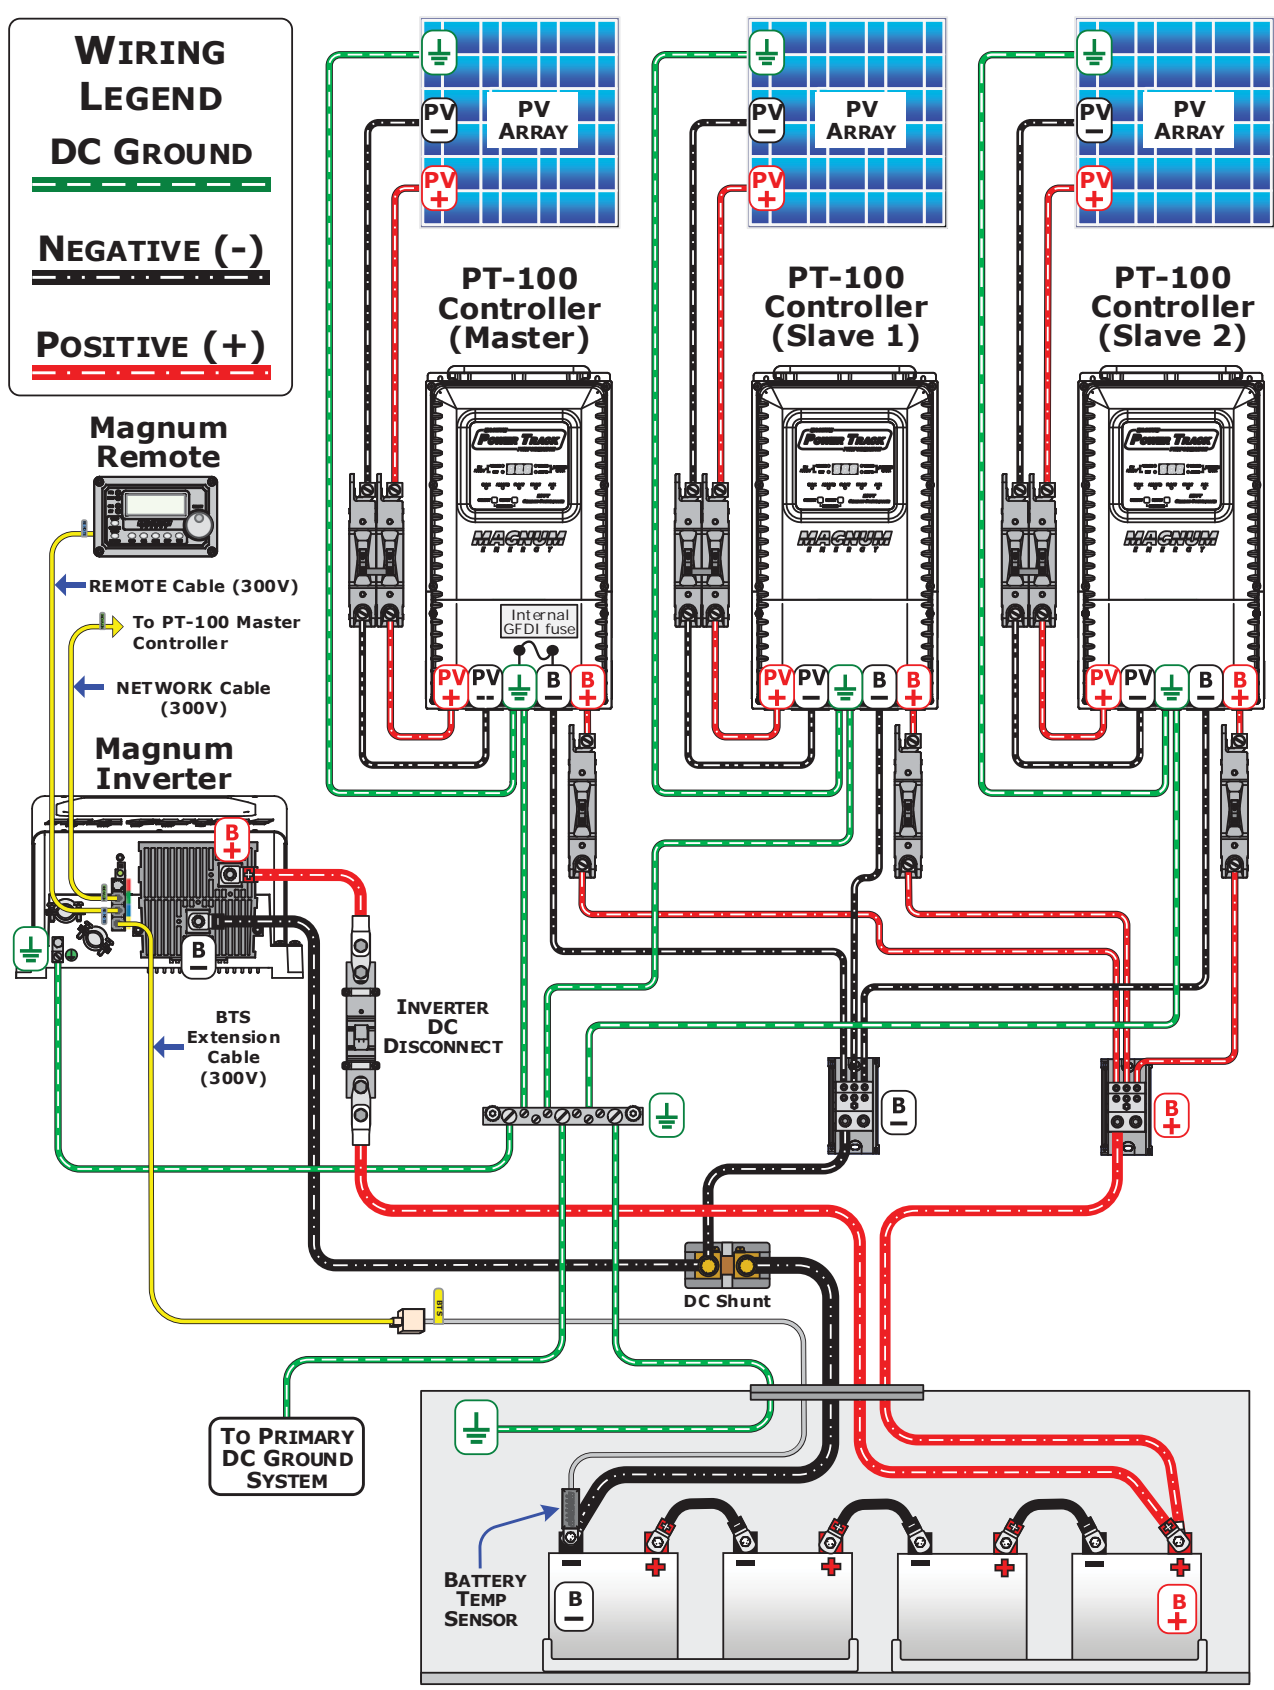

Figure 2-27, Wiring Multiple Controllers
1. Each PT controller must be connected to the same battery bank (see Figure 2-27).
2. The PV input must be connected to its own independent PV array, ensuring that no wires are interconnected between any charge controller (see Figure 2-27).
All wiring within the PT controller's wiring compartment must have insulation rated for the highest voltage within this compartment. When wiring the network cable and stacking cables from one controller to another (as shown in Figure 2-27), ensure the supplied yellow communication cables with 300-volt rated insulation are used (see Section 2.10 for more information on these cables).